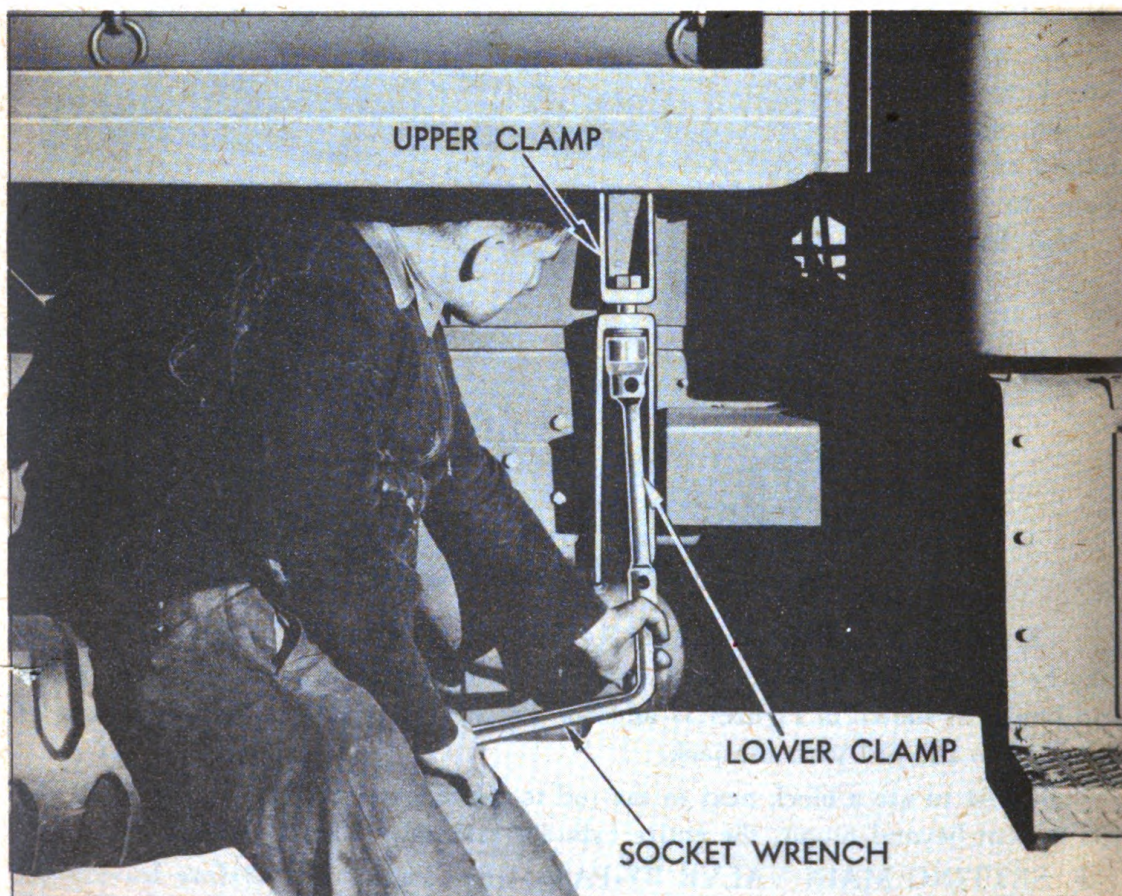

Figure 39. Tightening A Hold-Down Clamp Securing Body to Truck
c. **HOLD-DOWN BRACKETS** are provided on both sides to hold the body to the chassis frame. These brackets must be kept absolutely tight at all times. At regular intervals tighten the bolts holding the brackets to the chassis frame and also the bolts holding the brackets together as in Figure 39.
(1) OIL BY-PASSING IN PUMP